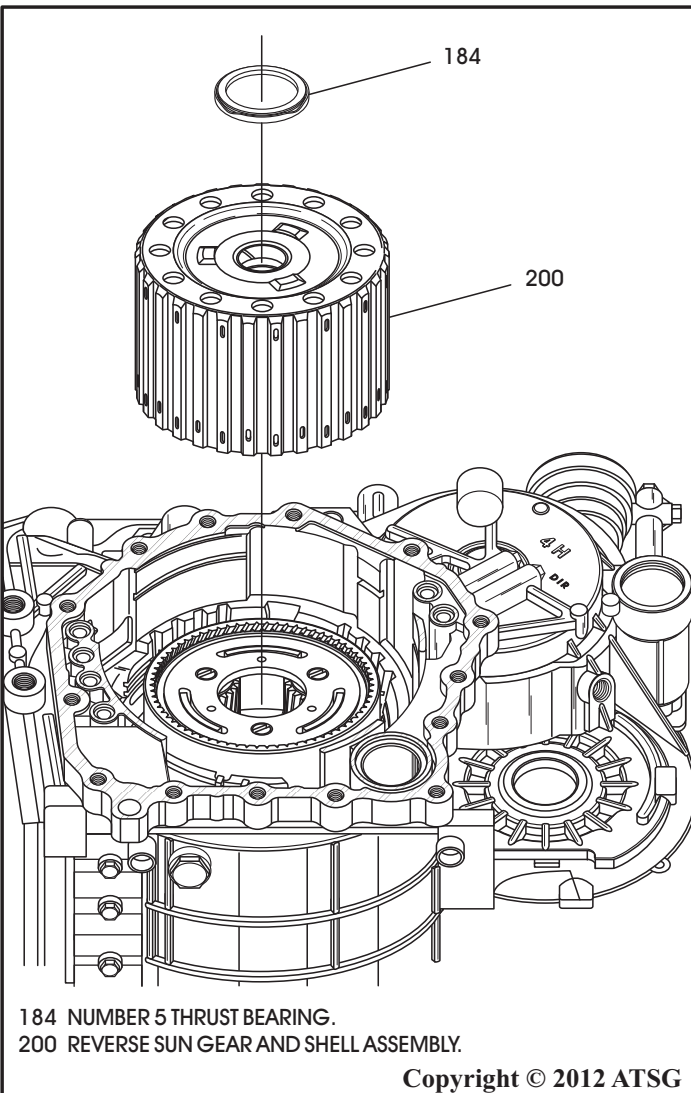

Figure 83
66. Remove the number 5 thrust bearing and the sun gear and shell assembly, as shown in Figure 83.